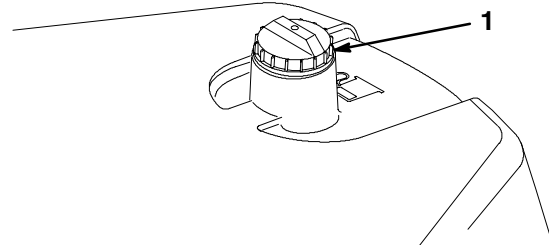

Figure 16
1. Clean the area around the fuel tank cap (Fig. 16).